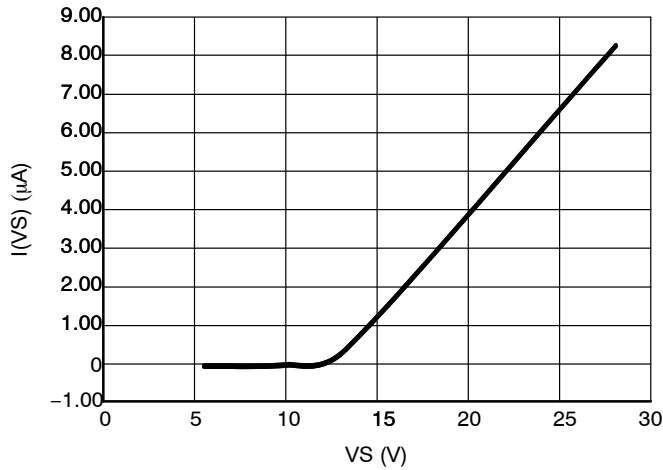

Figure 12. $I(VS)$ Standby Current vs. VS at 25°C
- Refer to Figures 12 and 17 for the VS standby current behavior.